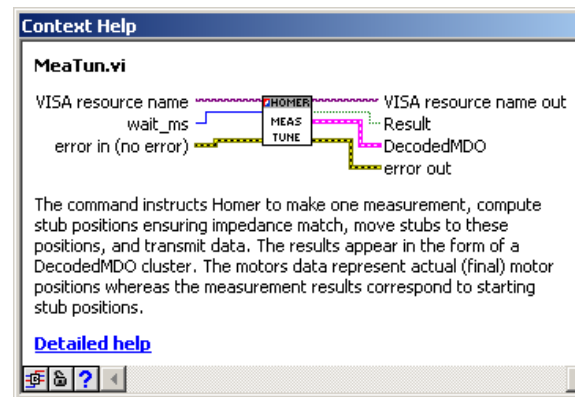

Fig. 3. Example of a LabVIEW virtual instrument block.
**LabVIEW HOMER Virtual Instruments Library** enables HOMER monitoring and control from within the National Instruments' LabVIEW environment. The library consists of a collection of virtual instruments (see an example in Fig. 3) and includes several useful examples. The library enables users to integrate HOMER into their own applications with much less effort than trying to start from scratch by studying HOMER communication protocol and programming the complete communication.